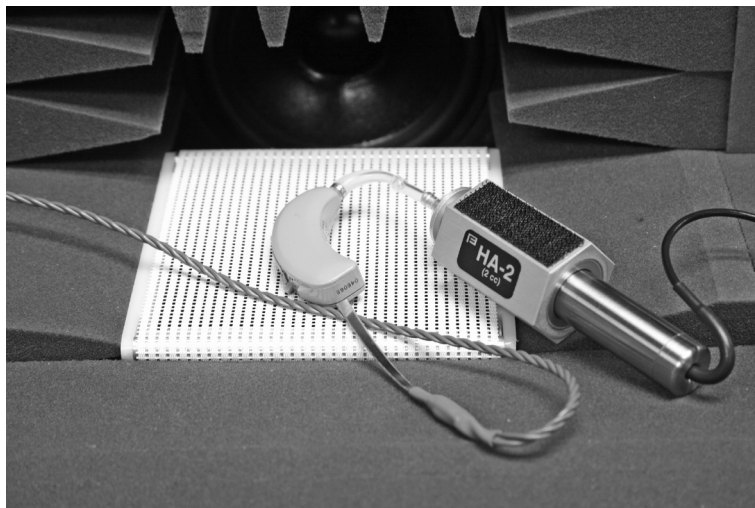

Figure 3.3.2C—Behind-the-Ear Aid with Ear-level Adapter
3. Place the microphone of the hearing aid at the reference point in the chamber, as shown in Figure 3.3.2C.